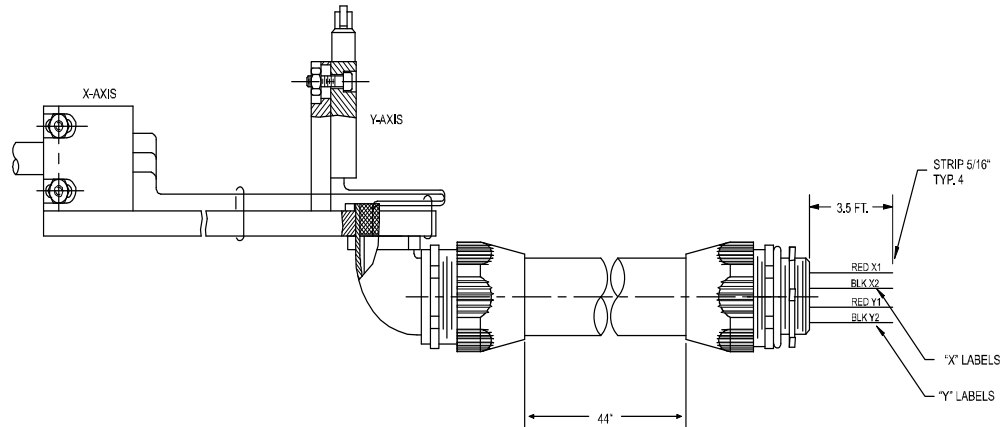

Figure 3-47, X and Y Limit Switch Harness Assembly
10. Refer to **Figure 3-47**. Remove the metal 1/2" NPT nut from the X and Y limit switch cable.